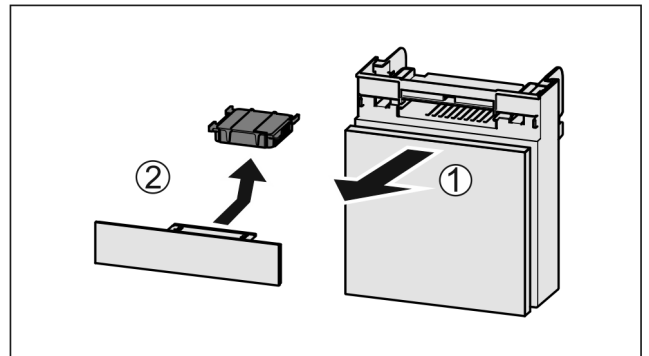

Fig. 147
- ▶ Pull out the compartment Fig. 147 (1).
- ▶ Remove the carbon filter Fig. 147 (2).